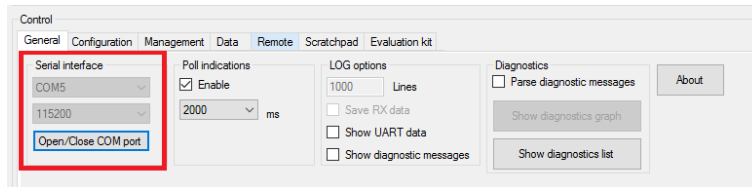

Figure 1: Open COM port
- b) Select the right COM port of the Thetis-I EV-Board and press the "Open/Close COM port" button (see figure 1).